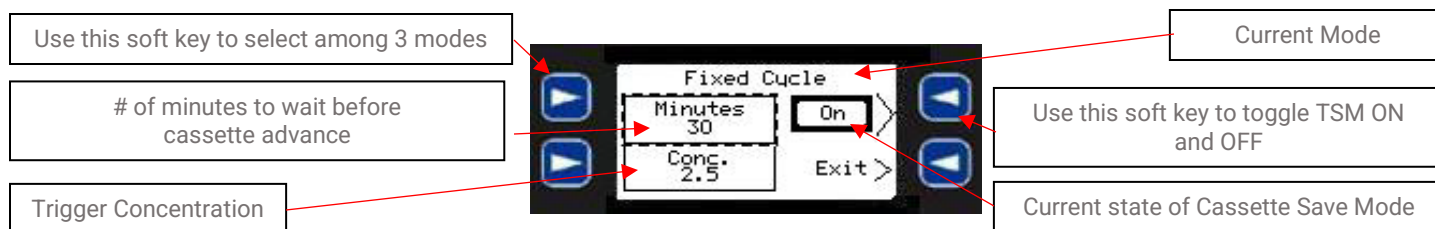
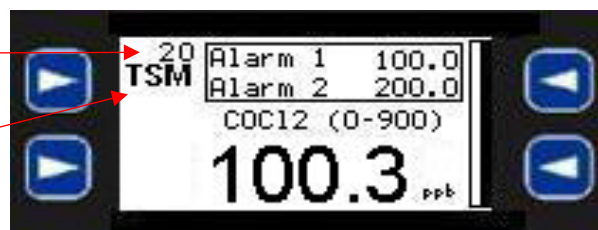

Figure 5.15
Figure 5.16
WARNING – When Cassette Saver Mode is active the actual gas concentration may not be displayed. Anytime the counter (in seconds – see Figure 5.16) is counting down to zero NO ANALYSIS IS BEING PERFORMED and the concentration displayed may not be accurate.
Example using Figures 5.15 and 5.16: When the values displayed in Figure 5.15 are entered and TSM is enabled (ON), a gas concentration reading of 100.3 would start the TSM counter and freeze the concentration reading at 100.3 ppb. (see Figure 5.16) Regardless of the amount of gas present during this time the counter